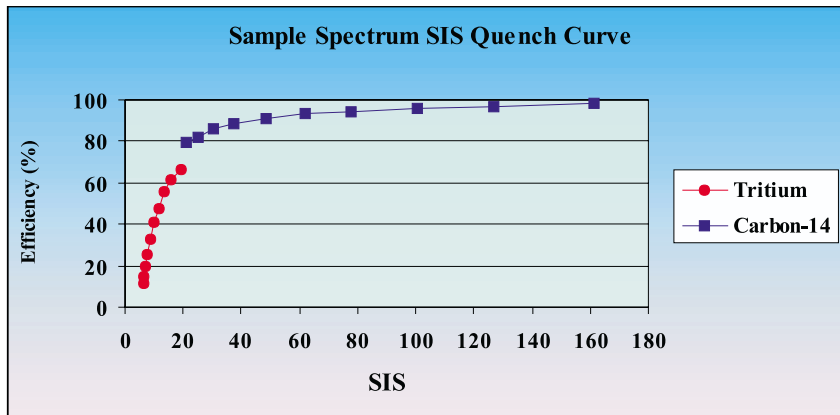

Figure 2. Quench Curves for ^3H and ^{14}C Using SIS as the QIP
At the same time, the QIP is measured for each standard. A correlation is made using the QIP on one axis (X) and the % efficiency on the other axis (Y). A curve is fitted to the standard points. Figures 2 and 3 show quench curves for ^3H and ^{14}C using SIS as the QIP and quench curves for the same isotopes using t-SIE as the QIP. Once the quench curve is stored in the instrument computer, it can be used for automatic DPM calculations.